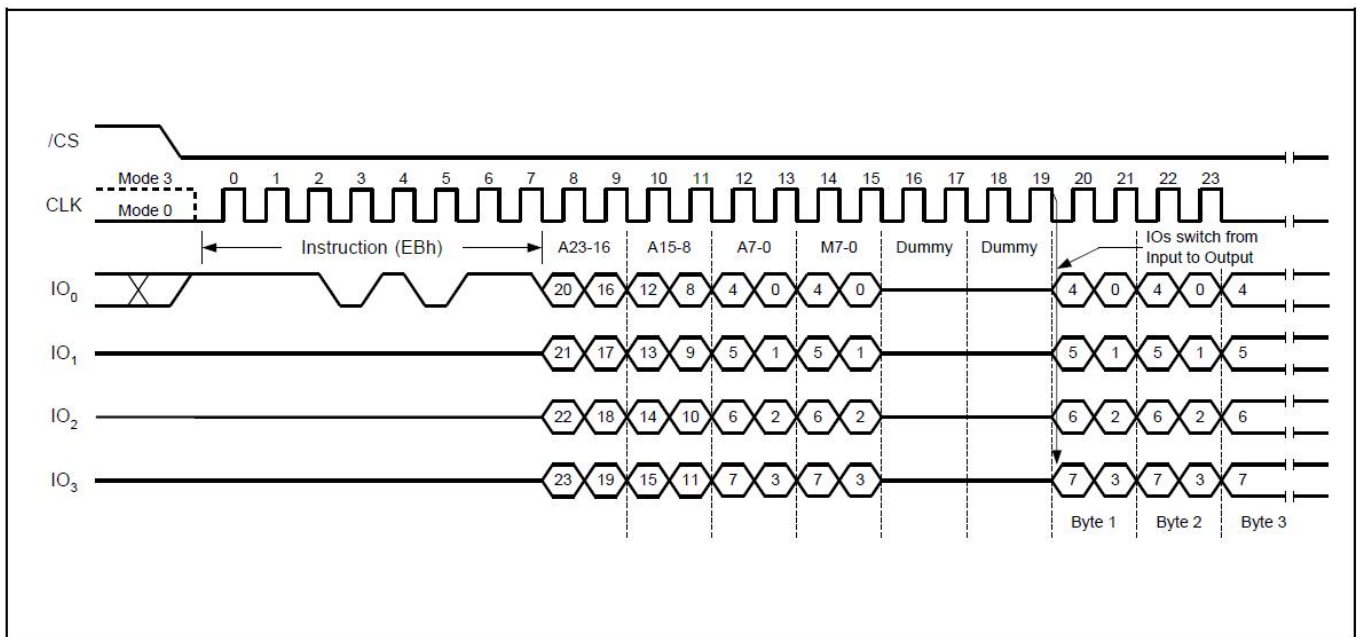

Figure11. Quad I/O Fast Read Sequence Diagram (M5-4≠(1, 0))
command sequence is shown in followed Figure11. The first byte addressed can be at any location. The address is automatically incremented to the next higher address after each byte of data is shifted out. The Quad Enable bit (QE) of Status Register (S9) must be set to enable for the Quad I/O Fast read command.